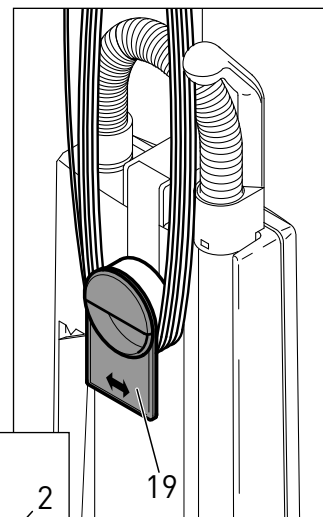

Figure 1
Starting The Machine - Figures 1 & 2
1. Turn the quick release cable hook (#19, figure 1) to the up position by moving it to the left or right.